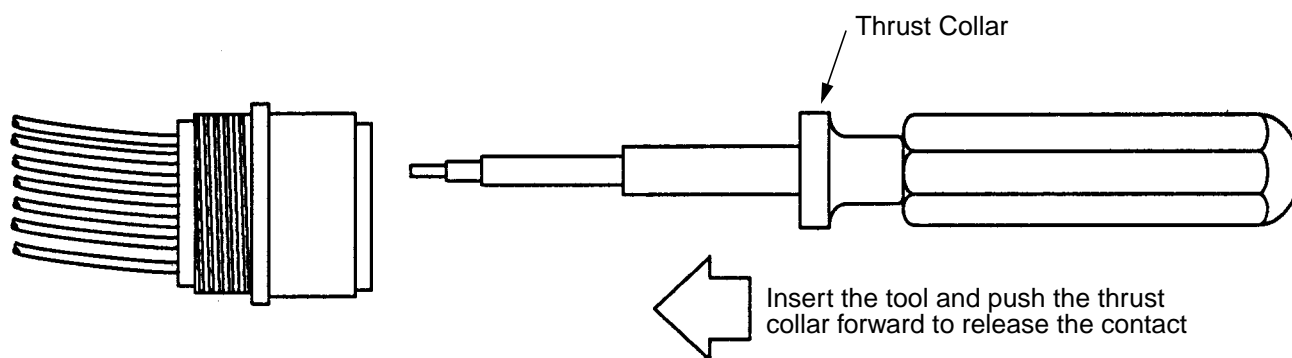

Figure 15 - Removal of Front Release Contacts using a M81969/19 Extraction Tool
Step 4. Carefully rotate the tool and push inward to properly seat the tool (see Figure 15).